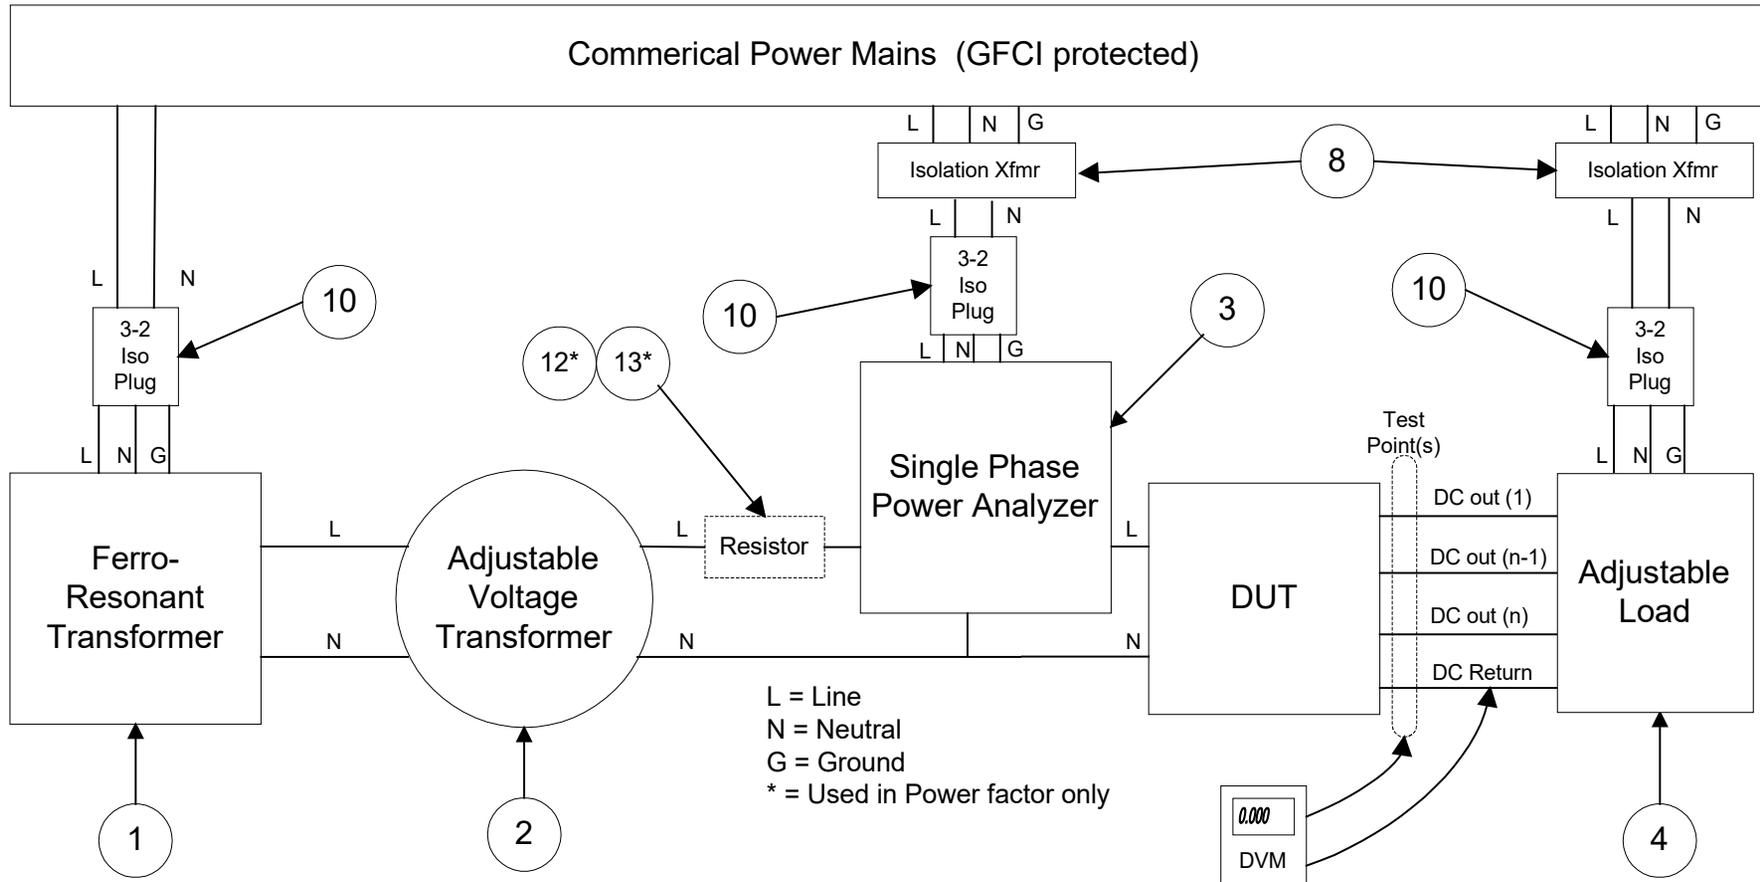

Figure 2 – Connection Diagram
| FIGURE 2 – CONNECTION DIAGRAM | 8 |
- 6.1 Construct the test system as shown in Figure 2. Note the use of “isolation” plugs isolates the ground return; therefore the devices should be powered from a ground fault circuit interrupting system (GFCI).
- 7.1.1 Set the input AC voltage to the maximum specified input level using the adjustable transformer (Figure 2 Item #2). Measure the input voltage using the power analyzer (Figure 2 Item #3).
- 7.1.2 Set the electronic load (Figure 2 Item #4) to the specified maximum output load current. Use a DVM (Figure 2 Item #7) in series with the DC output or the electronic load ammeter (Figure 2 Item #4) may also be used. If the power supply being tested has multiple DC voltage outputs adjust each DC output to the specified maximum output load current. Readjust the input AC voltage if it has changed.
- 7.1.3 Using the power analyzer, measure and record the input AC power consumption, $P_{IN}(\text{real})$, and the input AC voltage, V_{IN} (Figure 2 Item #3).
- 7.1.4 Holding the input AC voltage constant, adjust the electronic load(s) on the DC output(s) to the next load current(s) as desired. Readjust the input AC voltage (Figure 2 Item #2) if it has changed. Repeat the measurements of 7.1.3 for each current.
- 7.2.1 Set the input AC voltage to the maximum specified input level using the adjustable transformer. Measure the input voltage using the power analyzer (Figure 2 Item #3).
- 7.2.2 Adjust the electronic load (Figure 2 Item #4) to the specified maximum output load current. Use a DVM (Figure 2 Item #7) in series with the DC output or the electronic load ammeter may also be used. If the power supply being tested has multiple DC voltage outputs adjust each DC output to the specified maximum output load current. Readjust the input AC voltage if it changed.
- 7.2.3 Using the power analyzer (Figure 2 Item #3), measure and record the input AC current, I_{IN} , versus the input AC voltage, V_{IN} .
- 7.2.4 Holding the input AC voltage constant, adjust the electronic load(s) on the DC output(s) to the next load current(s) as desired. Readjust the input AC voltage (Figure 2 Item #2) if it has changed. Repeat the measurements of 7.2.3 for each current.
- 7.3.1 Set the input AC voltage to the maximum specified input level using the adjustable transformer. Measure the input voltage using the power analyzer (Figure 2 Item #3).
- 7.3.2 Adjust the electronic load (Figure 2 Item #4) to the specified maximum output load current. If the power supply being tested has multiple DC voltage outputs adjust each DC output to the specified maximum output load current. Readjust the input AC voltage if it changed.
- 7.3.3 Using the power analyzer (Figure 2 Item #3), measure and record the input AC “real power,” $P_{IN(real)}$.
- 7.4.2 Using the power analyzer (Figure 2 Item #3), set the input AC voltage to the maximum specified input level using the adjustable transformer (Figure 2 Item #2).
- 7.4.3 Adjust the electronic load (Figure 2 Item #4) to the specified maximum output load current. If the power supply being tested has multiple DC voltage outputs adjust each DC output to the specified maximum output load current. Readjust the input AC voltage if it changed.
- 7.4.4 Using the DC voltmeter (Figure 2 Item #7), measure and record the DC voltage, V_{OUT} .
- 7.4.5 Adjust the electronic load(s) on the DC output(s) to the next desired value of current load. Readjust the input AC voltage if it changed. Using the DC voltmeter (Figure 2 Item #7), measure and record the DC voltage. Calculate and record the load regulation from Eq. 5.
- 7.5.1 Connect the DC voltmeter to the output of the power supply when making a DC voltage measurement (Figure 2 Item #7).
- 7.5.2 Using the power analyzer (Figure 2 Item #3), set the input AC voltage to the maximum specified input level using the adjustable transformer (Figure 2 Item #2).
- 7.5.3 Adjust the electronic load (Figure 2 Item #4) to the specified maximum output load current. If the power supply being tested has multiple DC voltage outputs adjust each DC output to the specified maximum output load current. Readjust the input AC voltage if it changed.
- 7.5.4 Using the DC voltmeter (Figure 2 Item #7), measure and record the DC voltage, V_{OUT} .
- 7.5.5 Adjust the AC input voltage using the adjustable transformer (Figure 2 Item #2) to the next desired value. Using the DC voltmeter (Figure 2 Item #7), measure and record the DC voltage for each input setting. Calculate and record the line regulation from Equation 4.
- 7.6.1 Connect an oscilloscope (Figure 2 Item #5) to the output of the power supply with a 1:1 probe (Figure 2 Item #6). The probe should consist of a short section of shielded coaxial cable.
- 7.6.5 Using the power analyzer (Figure 2 Item #3), set the input AC voltage (Figure 2 Item #2) to the maximum specified input level using the adjustable transformer.
- 7.6.6 Adjust the electronic load (Figure 2 Item #4) to the specified maximum output load current. If the power supply being tested has multiple DC voltage outputs adjust each DC output to the specified maximum output load current. Readjust the input AC voltage if it changed.
- 7.6.7 Using the oscilloscope (Figure 2 Item #5) with the 20 MHz bandwidth limit filter enabled, measure and record the peak-to-peak amplitude of the DC output voltage ripple and switching noise (Note that when using a digital sampling oscilloscope to measure noise and transient type signals, that some form of peak-detection sampling should be used).
7.7.1 Using a dual channel digitizing storage oscilloscope (Figure 2 Item #5), probe the DC output on channel 1 and the AC input on channel 2. If the DUT has more than one output, all outputs should be tested and characterized. Set up the oscilloscope as outlined below:
- 7.8.1 Feed the non-grounded DUT AC voltage input line through the wide-band current monitor (Figure 2 Item #9). Connect the output of the current monitor to channel 1 of the digitizing oscilloscope (Figure 2 Item #5).
- 7.8.3 Set the input AC voltage to the maximum specified input level using the adjustable transformer (Figure 2 Item #2).